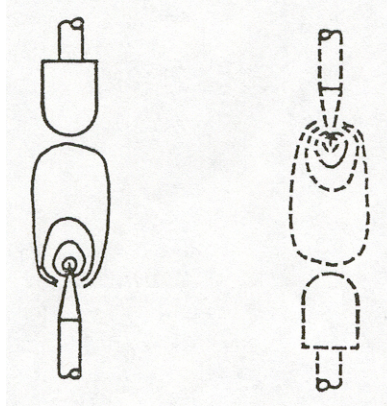

Figure 5
5. Rotate the mirror knobs until a bright spot appears alongside the arc (See Fig. 5 on page). This bright spot is a distorted image of the arc.